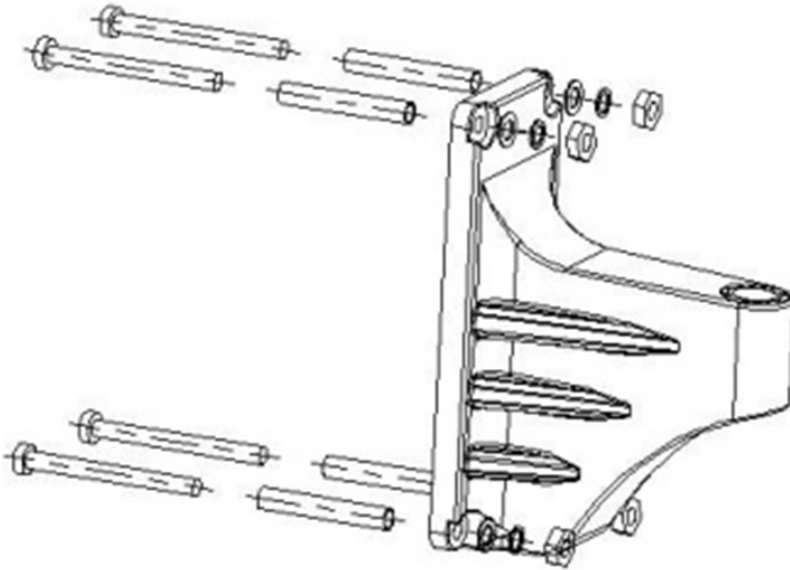

Fig.1
4. Fix the bracket by four screws (Fig.1).